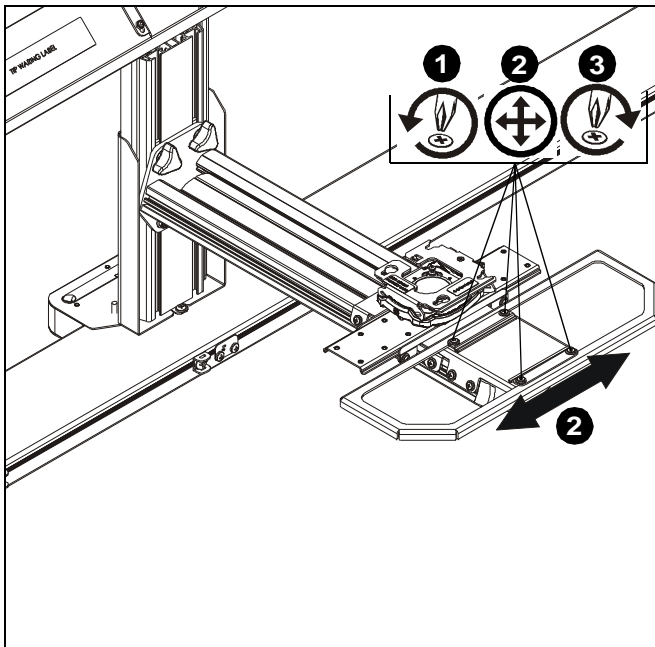

Figure 5
1. Loosen four screws holding guard bracket (B) to guard base (A). (See Figure 5)
2. Adjust guard bracket lateral position as desired. (See Figure 5)
3. Tighten four screws holding guard bracket (B) to guard base when desired position is achieved. (See Figure 5)